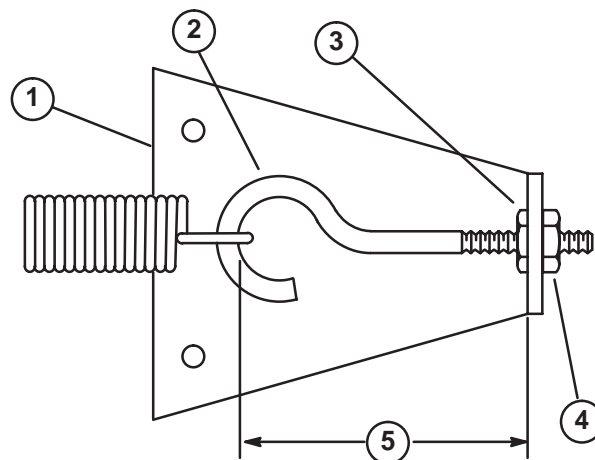

Figure 66
3. Loosen outer hex nut securing eye bolt to spring anchor plate (Fig. 66).
4. Rotate clockwise until distance between inside of eye bolt loop and inside of spring anchor plate is shortened 1/8 in., as shown in Figure 66. Tighten hex nut.